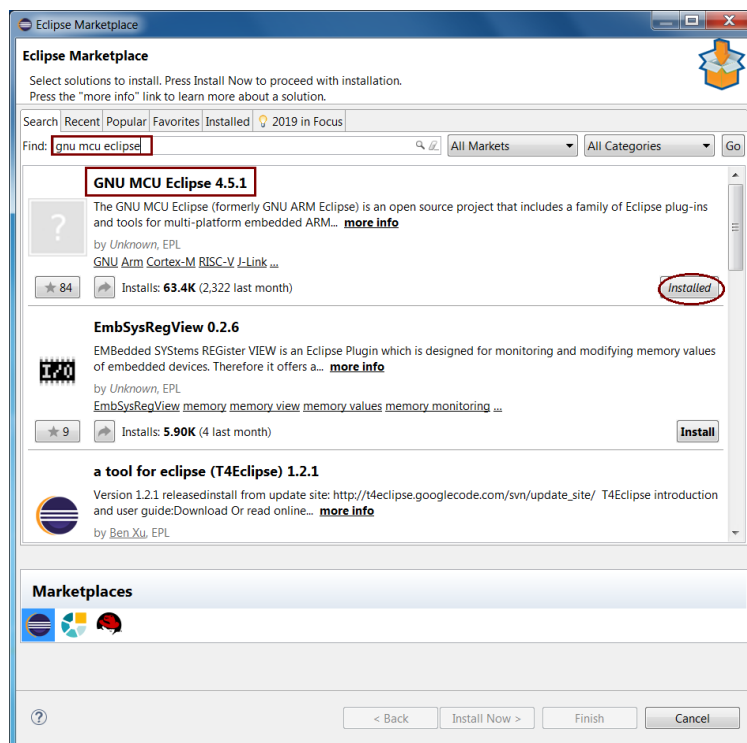

Figure 1-2 Install Plug-in
2. Input gnu mcu exlipse in the Find field, and then the search result will be shown as Figure 1-2. Select latest version and click the **Install** button to install the required plug-in.